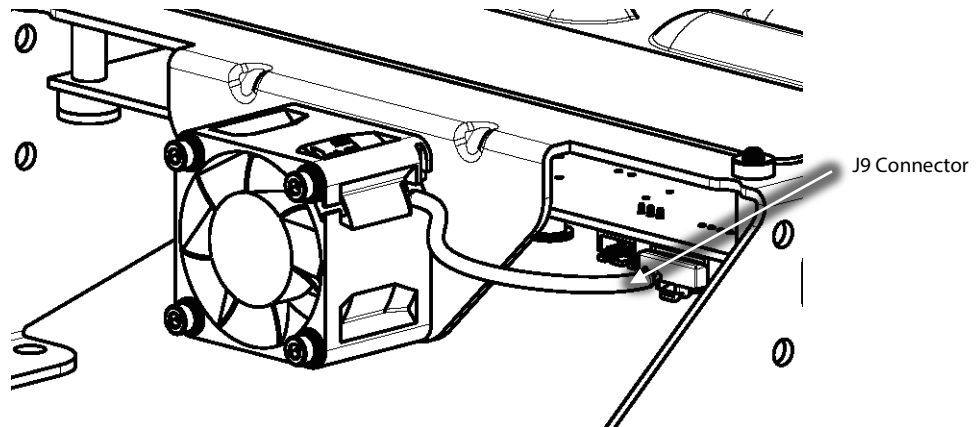

Figure 1 – Soft Start J9 Connector
6. Using an appropriately rated volt meter, check the DC bus bars for voltage level. If the voltage is above 5VDC, wait five (5) minutes and recheck until 5VDC or below is achieved.
8. For F Series and later compressors, remove the Soft Start Temperature Harness. Refer to Figure 1 (Soft Start J9 Connector).